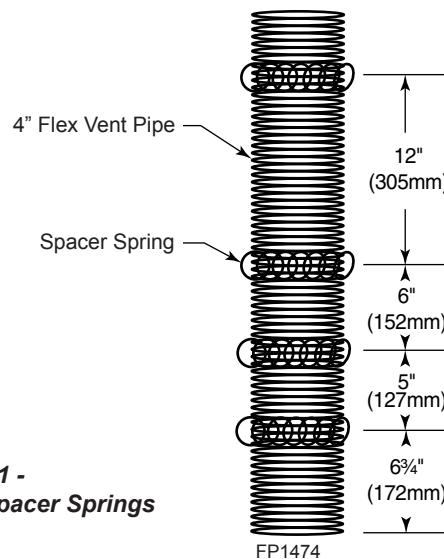

Figure 31 -
Install the four (4) spacer springs on the 4" flex vent pipe. When installing the spacer springs around the 4" pipe, stretch the spring to approximately 15" (381 mm), wrap the spring around the pipe and interlock the ends of the spacer spring approximately 2" (51 mm). Measure 6 $\frac{3}{4}$ " (172 mm) from the end of the pipe. Place the next spring 5" (127 mm) from the previously installed spring. Place the next spring 6" (152 mm) from the last spring. Finally place the last spring 12" (305 mm) from the last spring installed. *Figure 31*